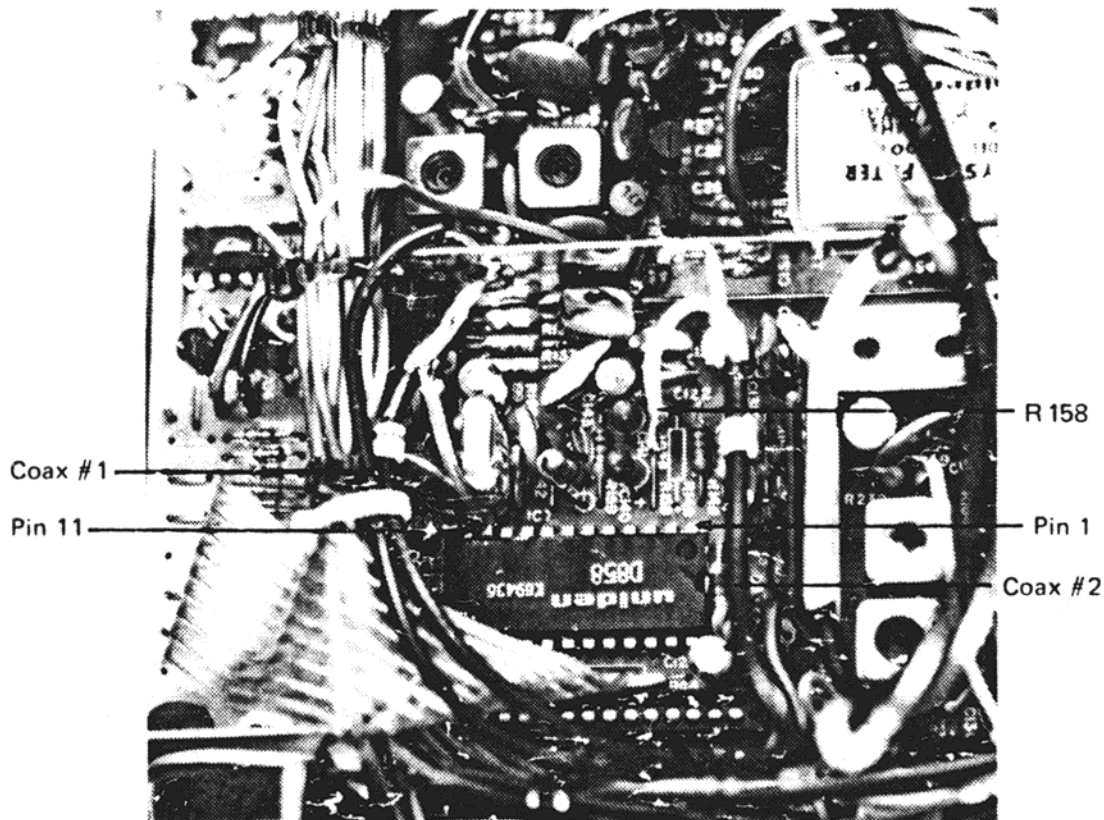

FIG. 4 — LOCATION OF TEST POINTS (D858)
3. Locate and identify Pin 11 of the PLL Chip — normally close to the channel selector in the transceiver (See *Fig. 4*). Solder the center of coax #1 to Pin 11 of the D858 PLL Chip. Use caution and avoid excessive heat as it will damage the PLL Chip.
4. Locate and identify R158 15K ohm resistor that connects Pin 2 of D858 and Pin 3. (See *Fig. 4*)
5. Remove the one side of R158 that is connected to Pin 2 of the D858 PLL Chip and install the center of coax #2 to this lead of R158 as per Fig. 4.
6. Connect the ground shields of both coaxes to ground. (Example: see Fig. 4). **Caution:** Avoid excessive lead length.